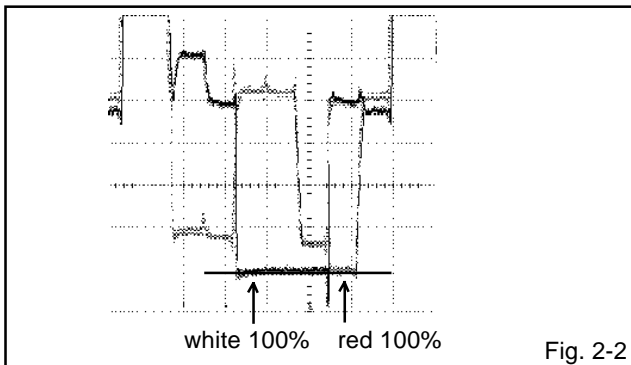

Fig. 2-2
7. Press the VOL. UP/DOWN button on the remote control until the red color level is adjusted to 100% of the white level. (**Refer to Fig. 2-2**)